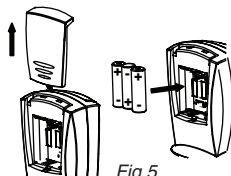

Fig 5
Remove battery compartment cover and insert three LR6 (AA) alkaline batteries as shown in Fig 5. Refit the battery compartment cover.